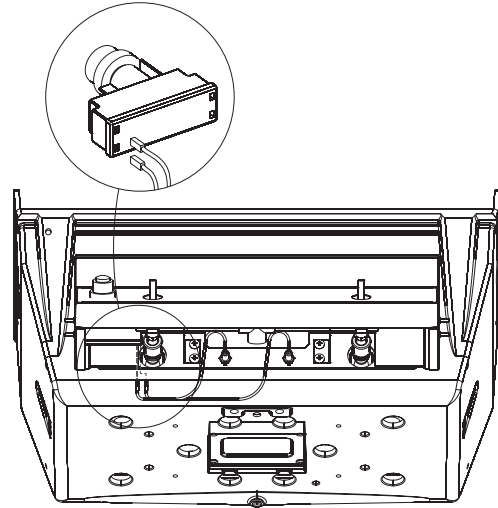

Figure 26
6. Remove ignitor from the control panel by unscrewing the ignitor button and nut. Attach ignitor wires to terminals on the ignitor. **See Figure 26.**